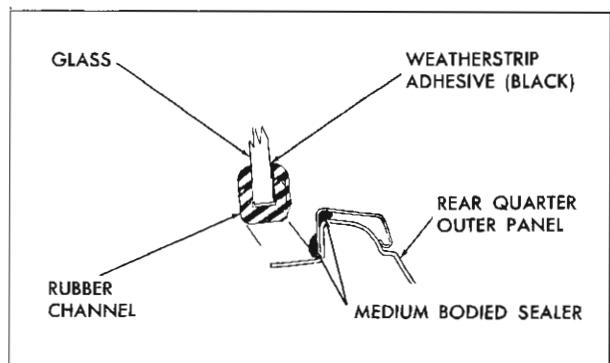

Fig. 4-17 Rear Quarter Stationary Window Sealing
4. Using a plews oiler or any other suitable applicator, apply an approved weatherstrip adhesive (black) between glass and outer wall of rubber channel completely around window. Clean off excess sealer (Fig. 4-17).